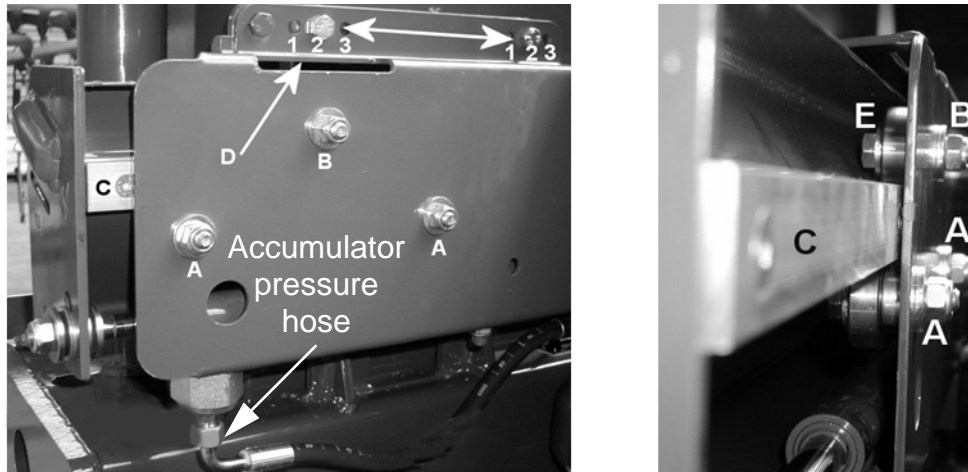

Figure 8.m - Cut and hold rail/horizontal position adjustment
The cut and hold assembly can be adjusted through three (3) different horizontal positions, if desired. The factory set position is position 2 as shown in Figure 8.m. Ensure that cut and hold assembly is safely secured (as assembly is quite heavy) before attempting the following procedure: